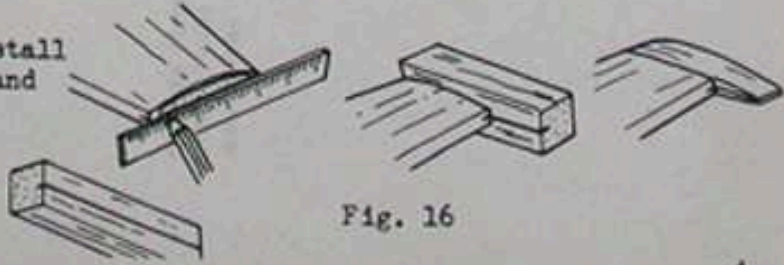

Fig. 16
21. Mark centerline on tip airfoil, install $1/2"$ x $3/4"$ x $5"$ soft balsa block and shape as shown in figure 16.